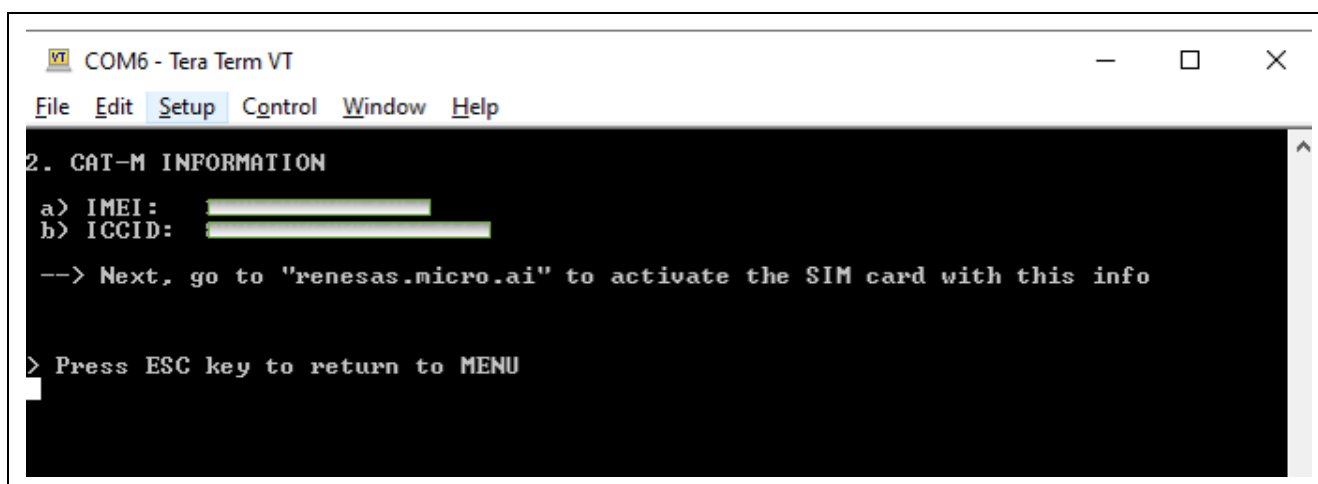

Figure 10. RYZ014A_PMOD Information
8. Select the device profile created from the **Device Profile** drop-down. Enter a **Device Name**. For the **Device ID**, enter the **IMEI** value obtained as seen in Figure 10. RYZ014A_PMOD Information. Fill other fields as needed.
10. Enter the **ICCID (or EID)** value for the **SIM EID** field, select the **Region/Country** and click Save SIM. Note: the **ICCID** value is found in Figure 10. RYZ014A_PMOD Information. Alternately, the EID is supplied with the SIM card documentation.